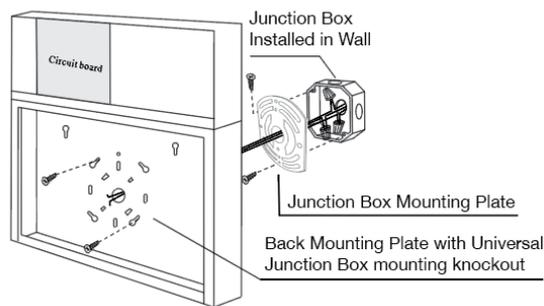

Fig. 2
- a) Pull wires through junction box mounting plate then connect junction box mounting plate to the junction box with screws (Fig. 2).
- b) Pull wires through the back mounting plate then connect the back mounting plate to the junction box mounting plate with screws (Fig. 2).